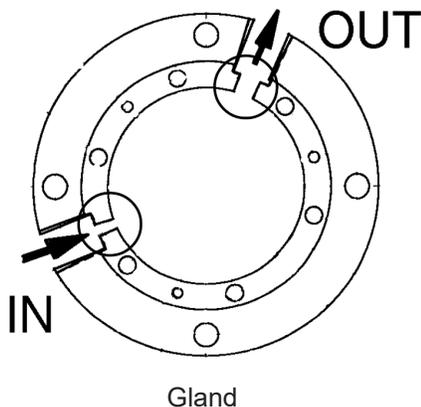

Figure 4
**NOTE:** These are 1/4-inch pipe nipples, but the IN hole is smaller than the OUT hole to prevent over-pressurizing (Figure 4).